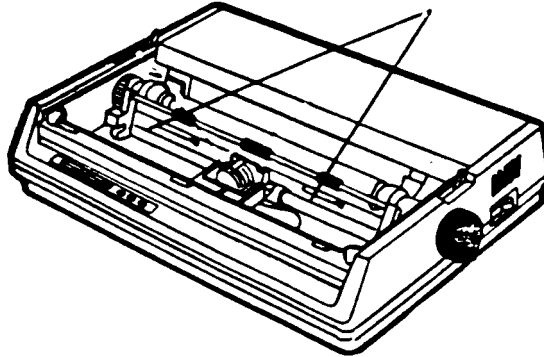

Figure 1
7. Place the printer on the printer shelf. Using the two screws, flat washers and acorn nuts supplied, mount the printer on the shelf removed in step 2. (See Figure 1)